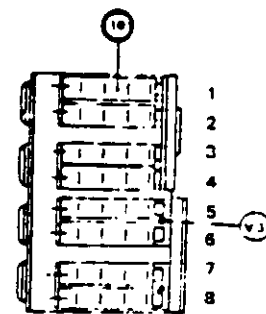

Fig. 27
C. Auxiliary Contact Block (Fig. 27). When removing contact blocks (1-4), place breaker in closed position before loosening contact cradle bolt V3. Slide cradle free of V3 and remove contact assemblies. To replace contact block reverse procedure making sure wires are returned to their original positions.